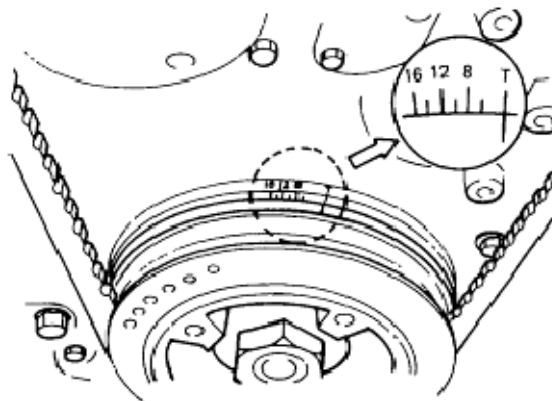

Figure 11 Timing Mark Alignment
- d. Number one cylinder is now on top dead centre (TDC) compression stroke (Figure 11).
- f. To adjust the remaining valves, rotate the crankshaft by hand in the direction of rotation for one complete revolution until the timing mark is aligned again (Figure 11).